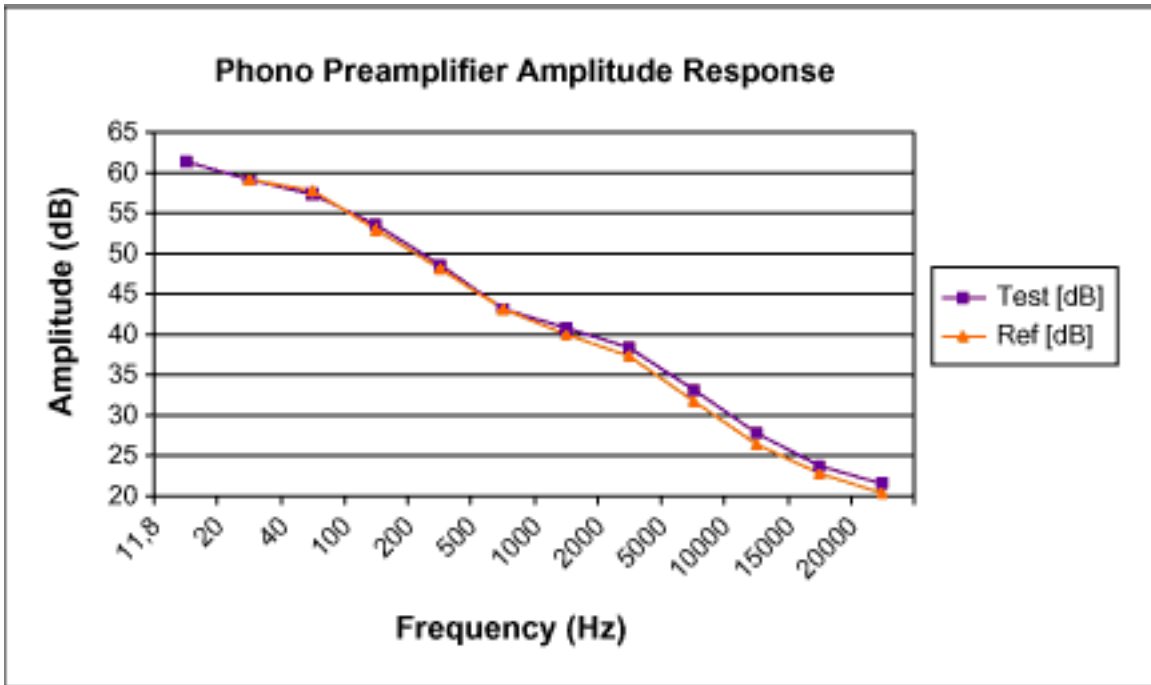

Figure 3. Frequency response vs. RIAA reference.
As can be seen from Table 1 or **Figure 3**, the accuracy is about 1dB. This might be increased if a more accurate capacitor for the high-frequency filtering is used. The gain at 1kHz is about 40dB (100) so a nominal 5mV cartridge output will give 500mV output. This may be increased if necessary, by increasing the value of the 100k resistor in the second stage.